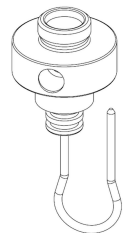

fig. 12
- Push locking device from the bottom into the air regulation case and remove the return valve and air disc. (fig. 12).